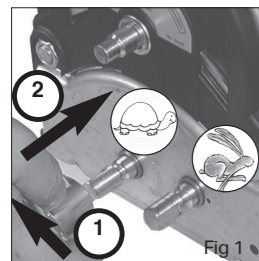
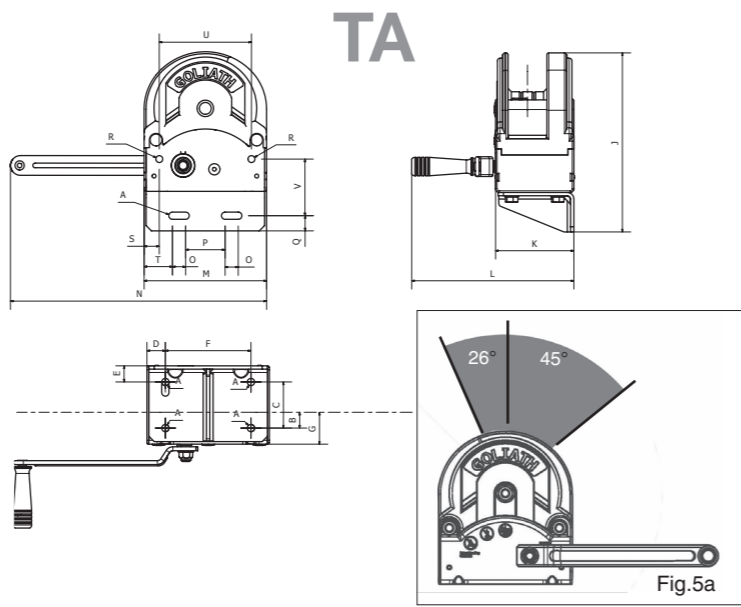

Fig 1
Fig.5a
Prior to each use make sure that the handle is locked on its axle and that the winch is in good operating order (Fig.1). Check this as follows : raise the load slightly and release the handle. The load should not get down. Make sure that during all operations the wire rope/webbing strap leaves the winch in an angle that is within the limits indicated in Fig.5a and Fig.5b.
- Make sure that the wire rope/ webbing strap leaves the winch within the limits indicated in Fig.5a (TA winch) or Fig.5b (TPV winch).